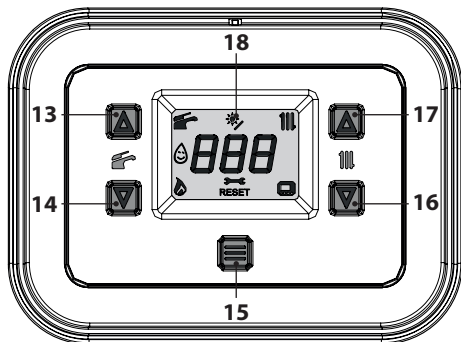
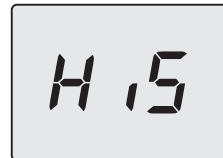

Figure 6.6
Figure 6.8
- Press button 15 for 5 seconds until both symbols  and  appear on the display (Figure 6.6).
- Enter "programming mode" by pressing the 14 and 16 buttons simultaneously for 5 seconds (Figure 6.6) until **HiS** (in reference to the "Boiler History" menu) appears on the LCD display (Figure 6.8).
- Press the 15 button (Figure 6.6) to activate the function. The display will show the following (Figure 6.10 and Figure 6.11).
- press the 14 and 16 keys simultaneously for 5 seconds (Figure 6.6) (return to previous level).
- Turn off the boiler by pressing button 15 (Figure 6.6) for 5 seconds until the symbol **- - -** appears on the display (the dashes light up in sequence to simulate a scrolling motion) (Figure 6.5).